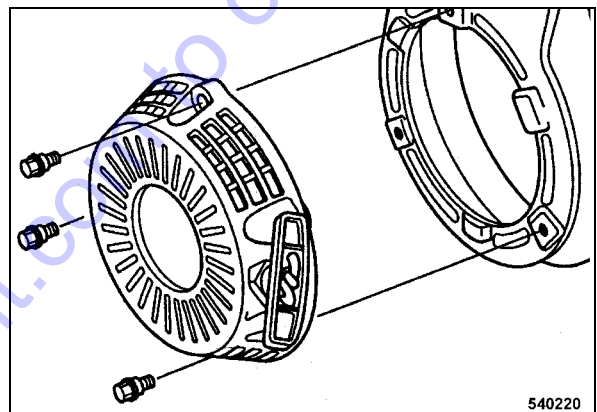

Fig. 52
- Disassemble the recoil starter (Fig. 52).